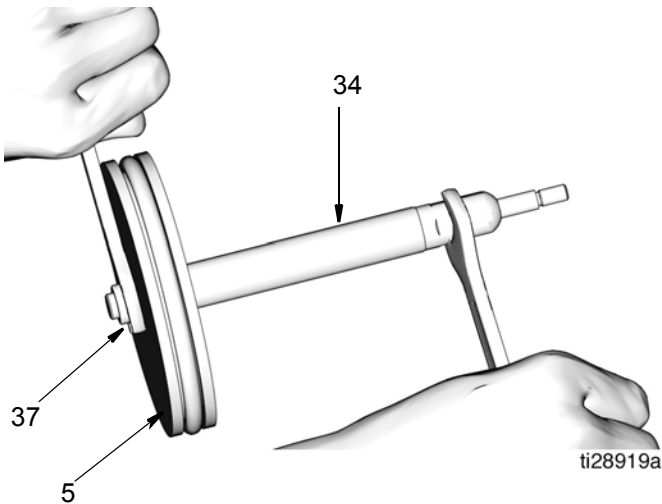

FIG. 23
- Separate piston rod (34) and piston (5) using two wrenches, working in opposite directions. Secure one wrench to flats of piston rod and the second wrench to loosen the nut (37) (FIG. 23).